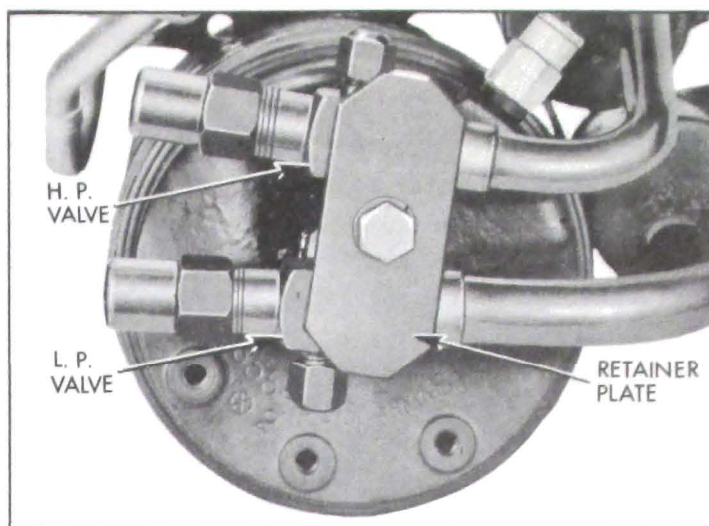

Figure 11-25—High and Low Pressure Service Valves
3. Remove protective caps and firmly shut off both valves on rear of compressor by turning valve stem clockwise. See figure 11-25.